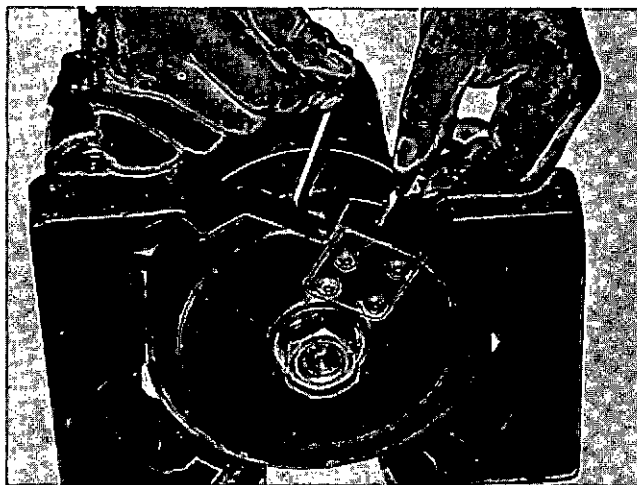

Fig. 1-1-36, V40173. Removing tool holder
1. Remove the cutting tool from the ST-1168 tool (Detail 15 or 39) holding plate. Fig. 1-1-36.